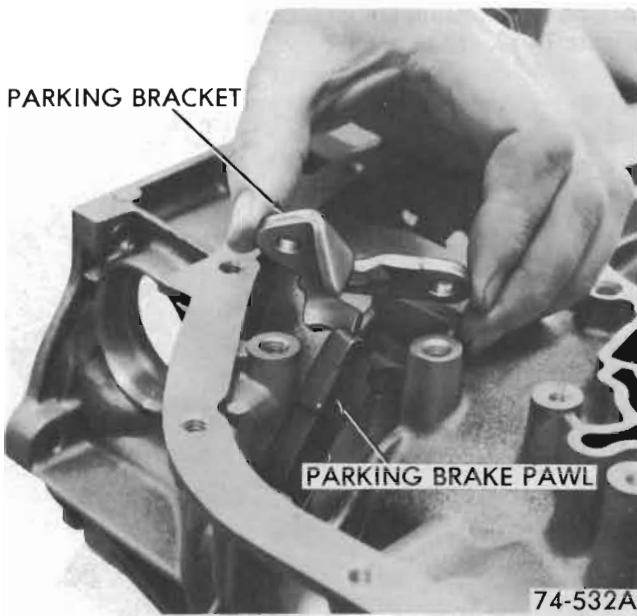

Figure 76-76
f. Remove attaching bolts and parking lock bracket. See Figure 76-76.